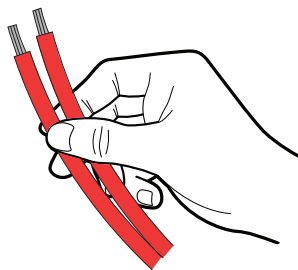

Figure 12a
- a. Strip insulation $\frac{3}{4}$ in. (19 mm) (see Fig. 12a).